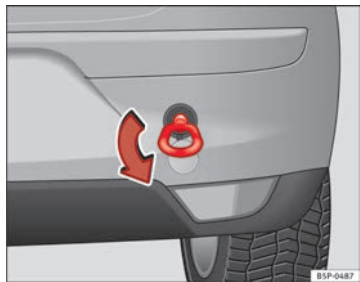

Fig. 205 Fitting the towing eye to the rear of the vehicle
- Screw the towing eye as shown by the arrow *anti-clockwise* to the limit position in the front ⇒ fig. 204 or rear ⇒ fig. 205 threaded hole. ■